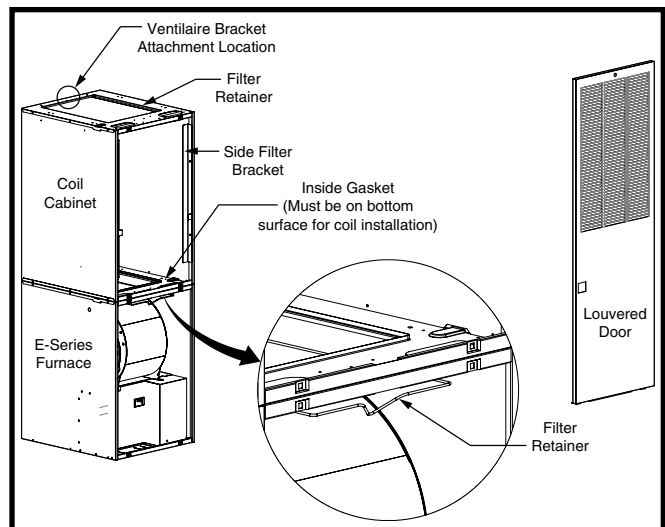
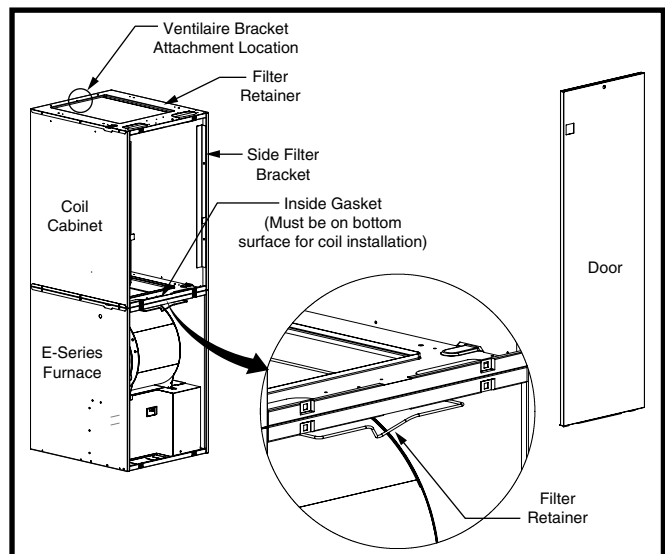

Figure 2. Downflow with Non-Ducted Return
Figure 3. Downflow with Ducted Return
- Downflow alcove installations: For non-ducted return set ups, use E5ED models with louvered door front return. See Figure 2 \(page 7\). For ducted return set ups, use E5EU models and see Figure 3.
For ducted return air systems with air conditioners or heat pumps, either provide an access panel in the duct or use the filter rack in the E5EU furnace (Figure 3). The duct system must be properly sized to account for any additional external static pressure produced from the chosen filtering method.